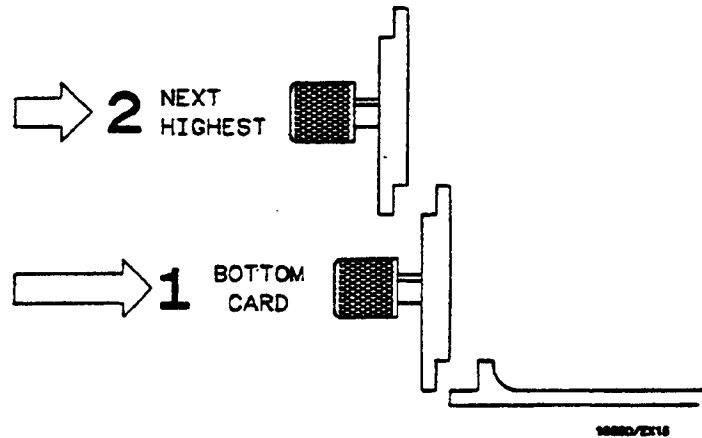

Figure 6-15. Endplate Overlap
- o. Repeat for all cards and filler panels in a bottom to top order. See figure 6-15.